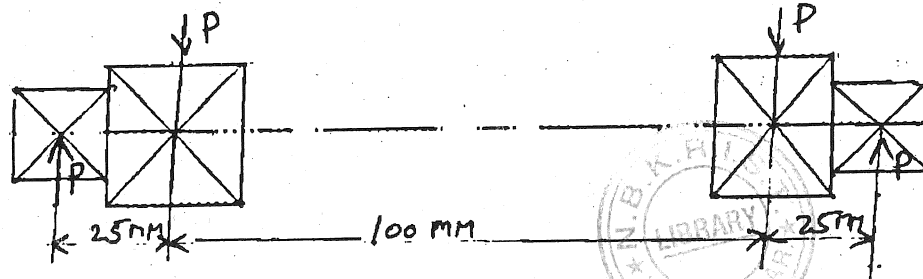

Fig. 1.1
2. (a) Explain Rankine's theory of failure. In what way Rankine's theory differ from Tresca's theory of failure? (4)
- (b) A spindle as shown in (fig. 1.1) is a part of brake system and is loaded as shown. Each load ' $P$ ' which is equal to 4 kN is applied at the middle of the bearing. Find the diameter of the spindle, if the maximum bending stress is 120 MPa. (8)